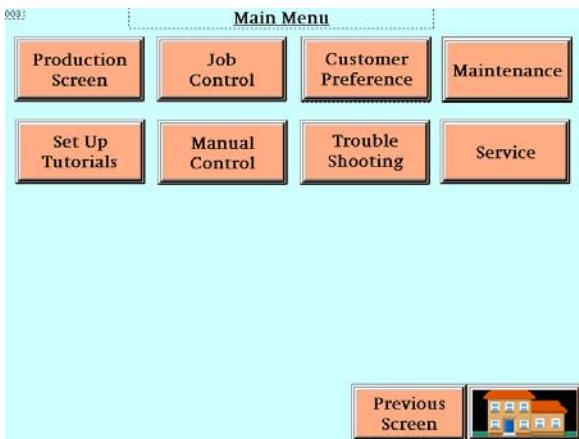

Figure 6
2. From the **main menu** (figure 6) press the **job control** button.
2. From the main menu (figure 6) press **Manual Control**.
2. From the **main screen** (figure 6) press the **Customer Preference** button.
2. From the **main screen** (figure 6) press the **maintenance** button in the upper right corner.